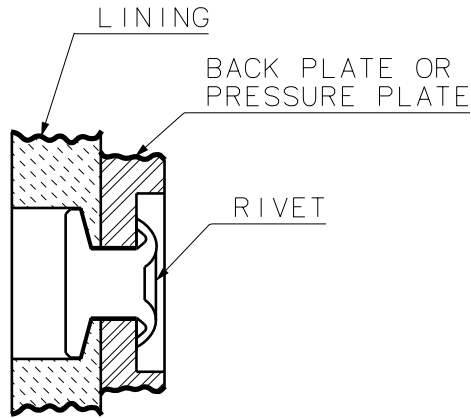

Figure 203 - Rivet Installation, Organic Lining
The organic brake lining is identified by its semi hard composition and rivets used to attach the lining to the pressure plate or back plate. The rivet holes are visible on the lining. Non asbestos, lead free lining material is also being used as a replacement for the old style organic lining and is removed and installed in the same manner as the organic lining. Ref. Figure 203, Appendix C provides a brake assembly / lining cross-reference information. Once it is determined which type lining is being replaced, follow the appropriate instructions listed below.
- 7 On design so equipped, install the center retention rivet as shown in Figure 203.